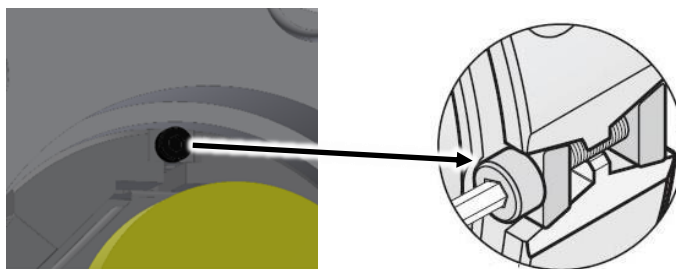

Figure 36
8. Tighten the bolt (M2.5) of the encoder collar with the torque wrench and socket Allen wrench (2mm) to 9 in-lbs. through the encoder cover hole. See Figure 36.